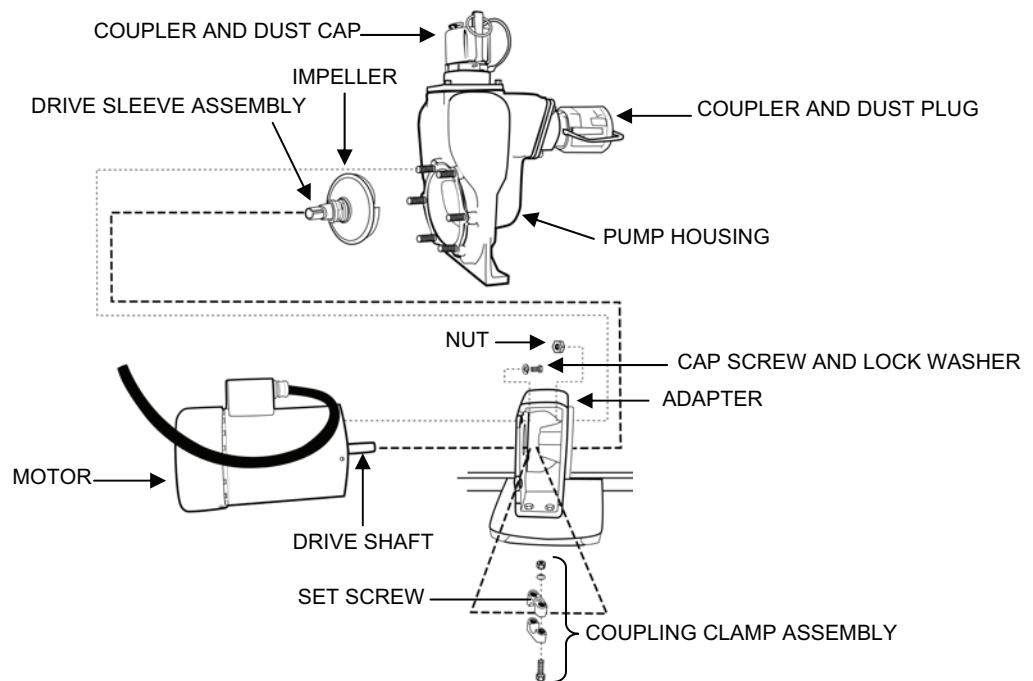

Figure 10. Pump P-7 Adapter and Pump Installation.
4. Install the adapter and pump onto the diesel engine (P-8) or the electric motor (P-7) as follows (see Figure 10):